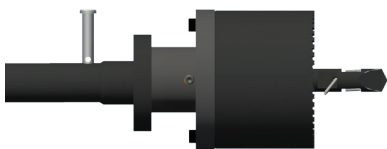

Figure 53
4.3.10) Thread adaptor/cutter onto saw mandrel until tight, then back off until adaptor through-hole aligns with saw mandrel through-hole. (This through hole is the modification made to the saw mandrel in order to accept the 3/8" set pin included in kit (see Figure 53)).